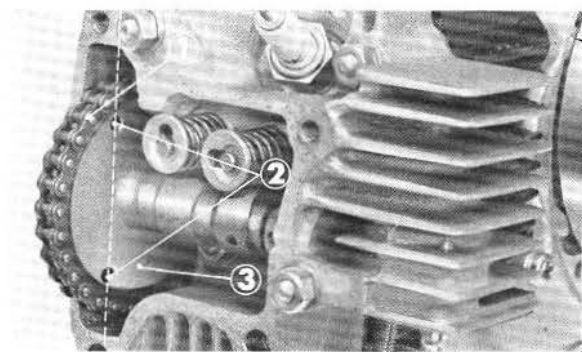

Fig. 2-22 ① Cam chain ② Holes parallel to gasket surface ③ Cam sprocket
5. Align the two holes in the cam sprocket so that they are parallel to the gasketing surface (top-dead-center) and install the cam chain. (Fig. 2-22)